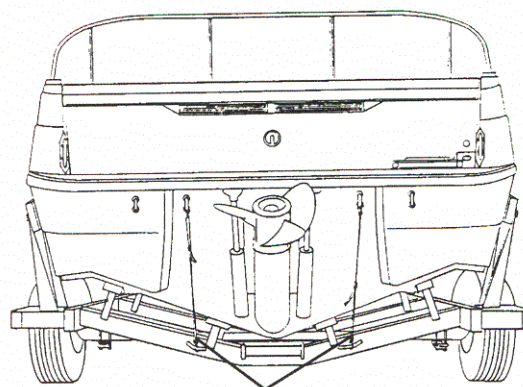

Figure P11: Rear Tie Down Straps
2. Rear Tie-downs: It is very important that the transom is resting securely on the bunk supports at the rear of the trailer. Rear tie-downs are provided to secure the boat to the trailer. Tighten the tie-downs to prevent the boat from moving. See Figure P11.